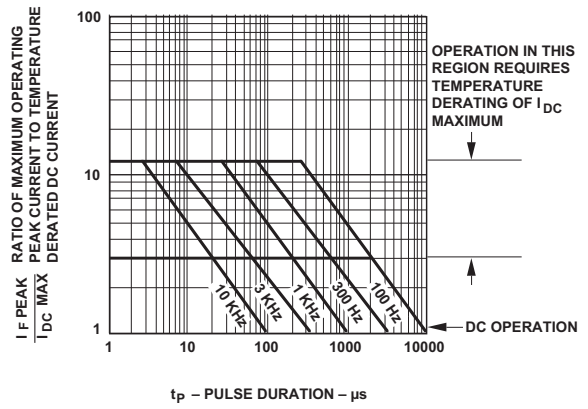

Figure 6. Maximum tolerable peak current vs. pulse duration – Green.
3. See Figure 6 to establish pulsed conditions.